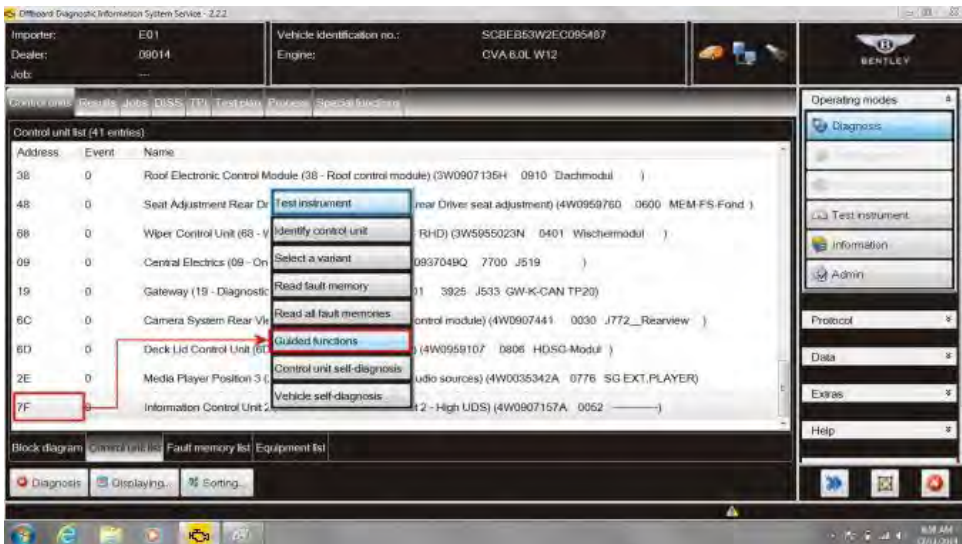

Figure 3
8. Within Control units – Select (single touch) **7F Information Control Unit 2** – Reveal drop down menu (extended touch and release), Select **Guided functions** (see Figure 3)